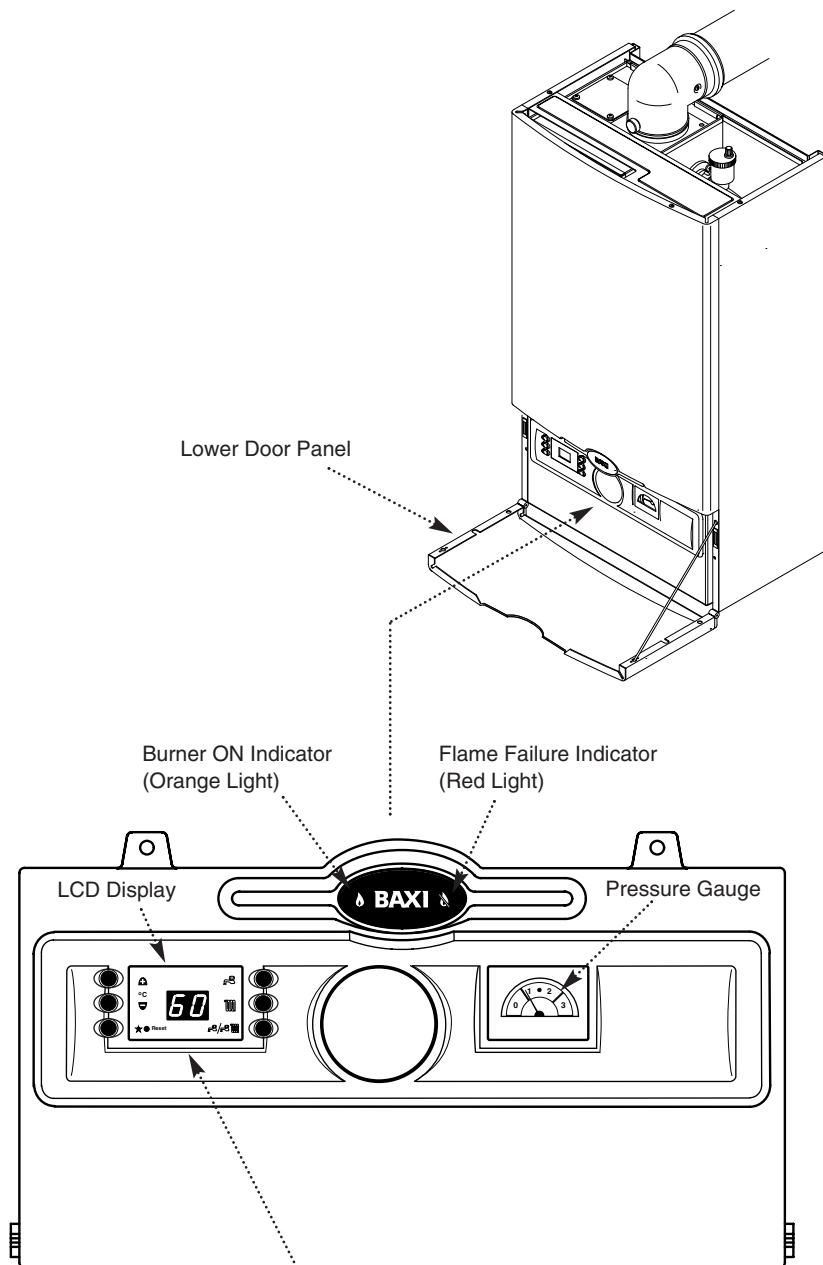

Fig. 3
NOTE: Two status indicators can be seen through the badge (Fig. 3).
1. The appliance only needs resetting if the red flame failure light is on (Fig. 3) or if the display shows () for more than 10 seconds.